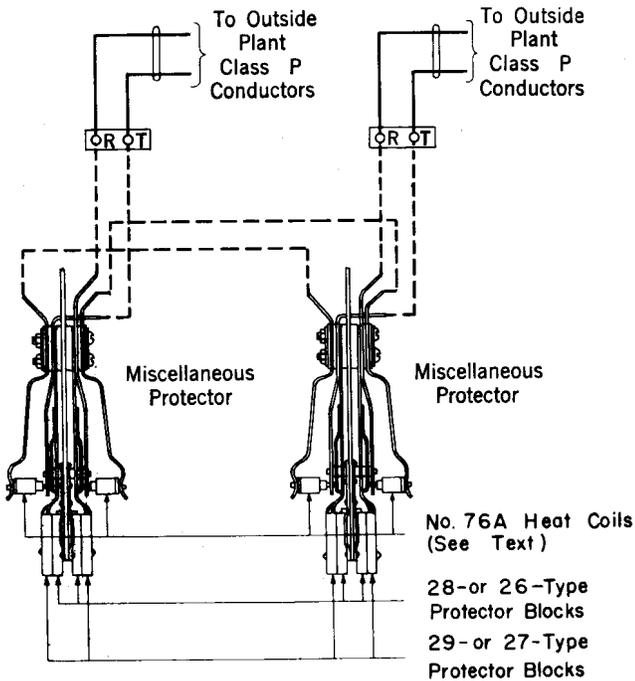

Fig. 11—Class P to Class P Conductors—Looped
6.19 All class P conductors looping through an office shall be protected, as shown in Fig. 11, by connecting each pair of conductors to the line terminals of separate miscellaneous protector mountings equipped with protector blocks and heat coils. The equipment terminals of the protector mountings shall be connected together.